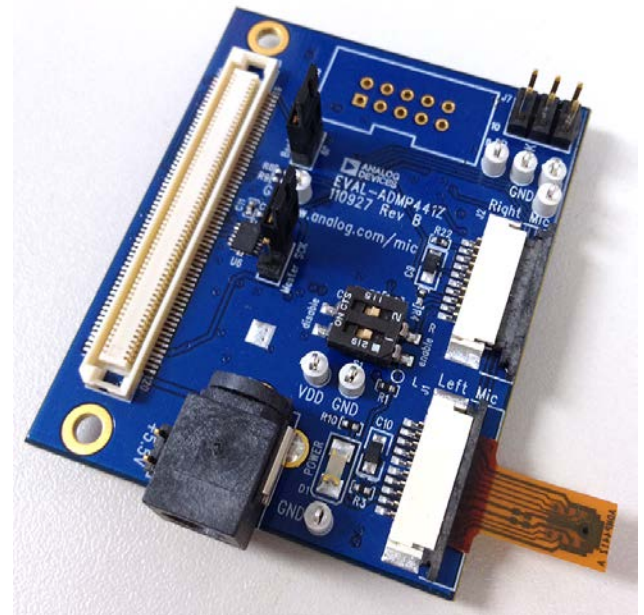
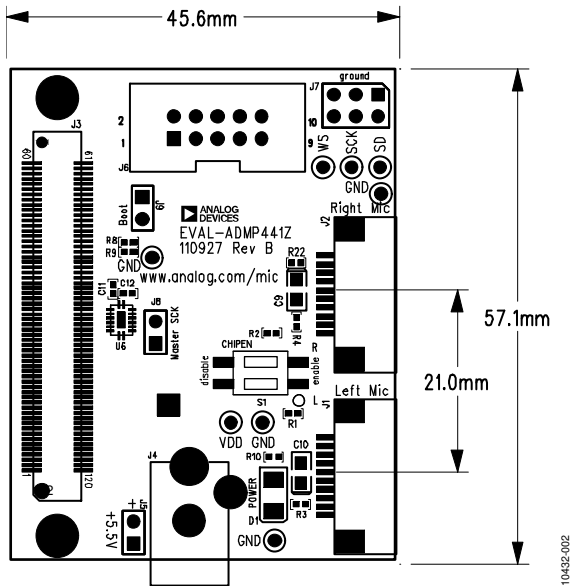

Figure 1. Evaluation Board Photo
Figure 2. Evaluation Board
1. Connect at least one EVAL-ADMP441Z-FLEX board to the EVAL-ADMP441Z daughter board (see Figure 1).
Figure 1 shows a photo of the EVAL-ADMP441Z daughter board with one EVAL-ADMP441Z-FLEX board plugged into the ZIF connector. Figure 2 shows the dimensions of the evaluation board.